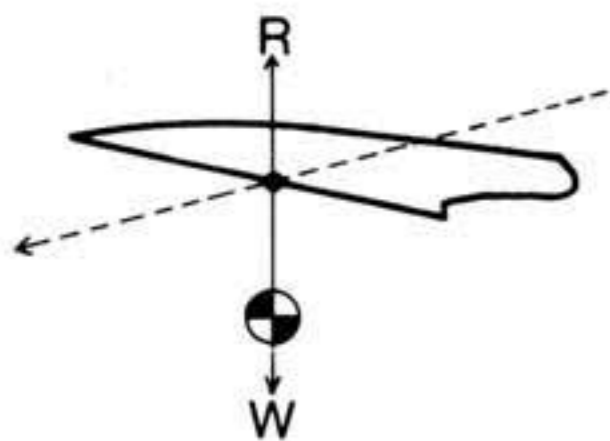

Fig. 17 Glider in trimmed flight.
8.1 As stated at 2.6, R is the vector sum of lift against drag and always directly opposes gravity. W is the weight of man and machine and is always in direct opposition to R. Fig.17 is a simplified statement of the case.